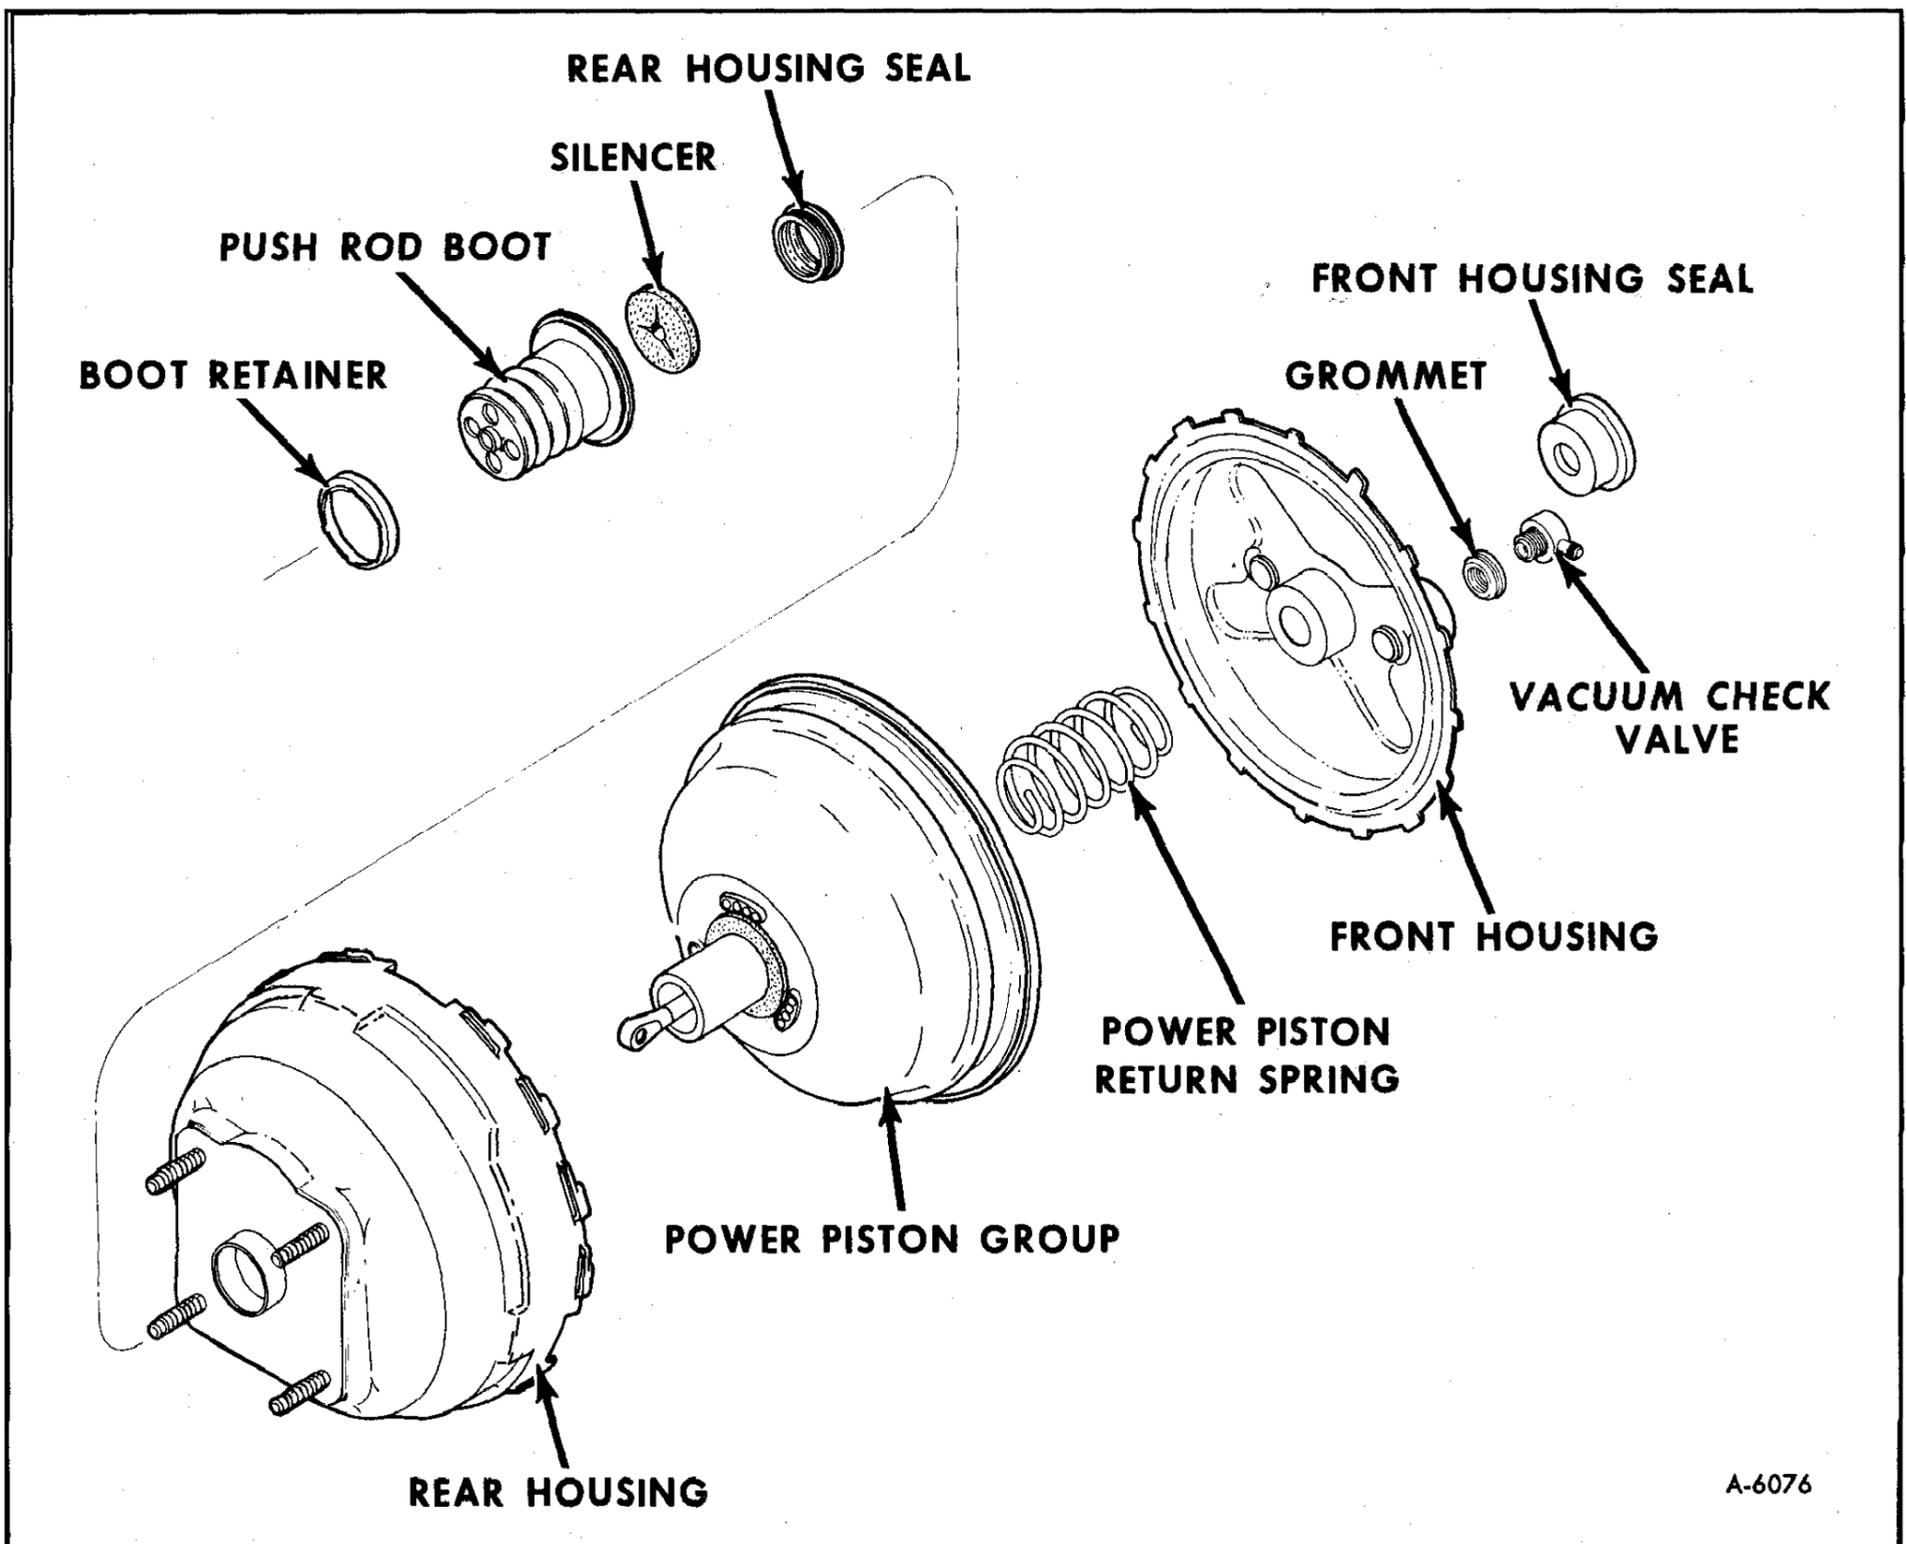

Figure 8—Delco-Moraine Power Booster Components
3. Remove front housing seal (figure 8).